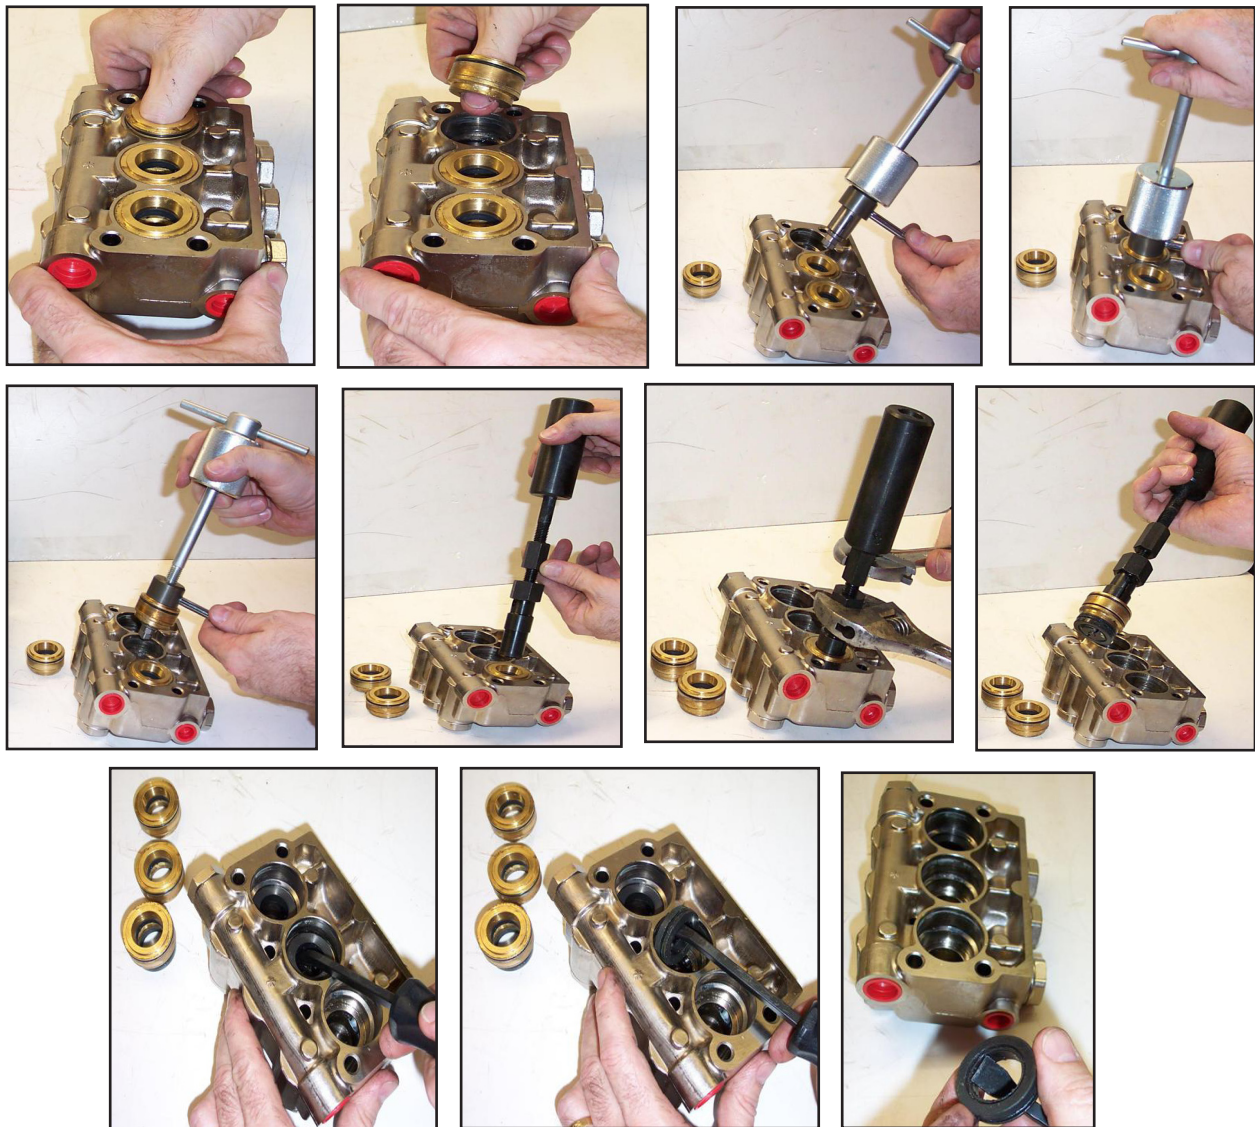

Figure 5-11. Extract Retainers and Seals
1. Insert proper extractor collet through main seal retainer (see Figure 5-11).